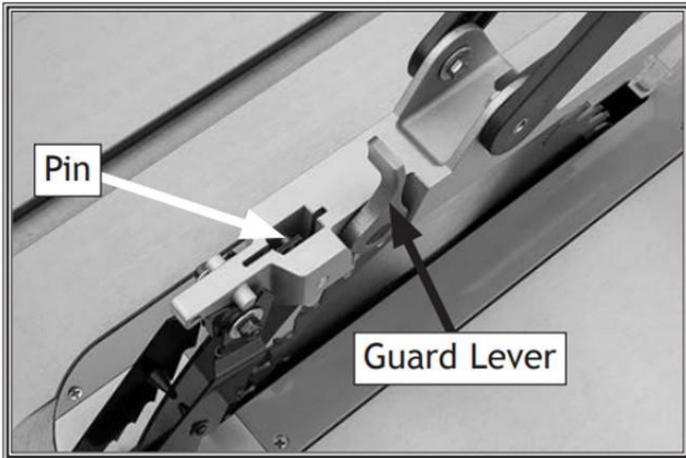

Figure 36: Blade guard installation.
- 7 - Insert the rear pin on the guard into the rear slot of the spreader (see figure 36), then push down on the blade guard assembly until the forward pin is in the forward slot of the riving knife.